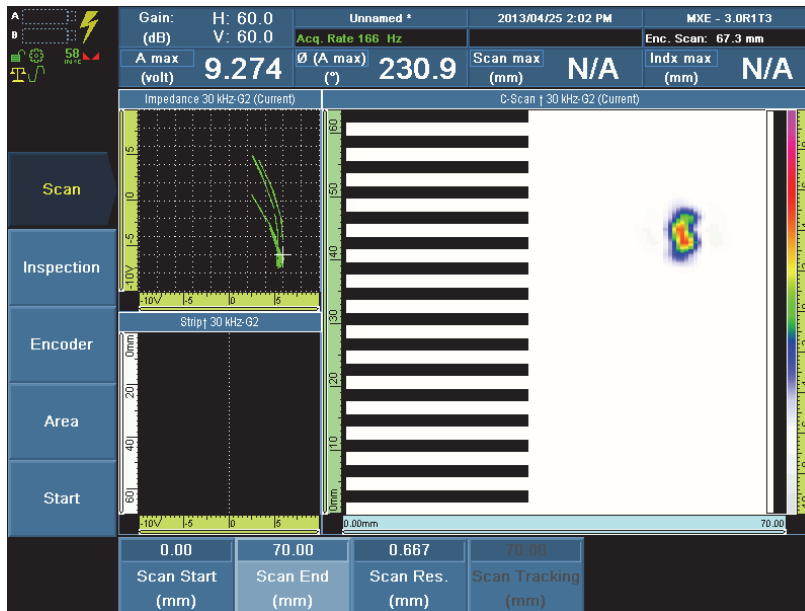

Figure 9-8 Setting the Scan End parameter for a 1:1 ratio in the C-scan view
- Set the **Scan End** parameter to display the data in the C-scan views with a 1:1 ratio between the scan axis and the index axis. Select **Scan >Area > Scan End = 70**, and then press the Accept key to confirm (see Figure 9-8 on page 150).